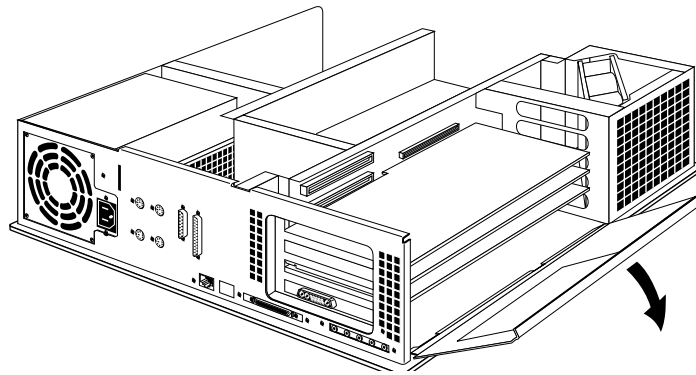

Figure 2-8 Opening the Metal Panel in Front of the Expansion Slots
1. Move the system or position yourself so that you are facing the expansion slots, as shown in Figure 2-8.